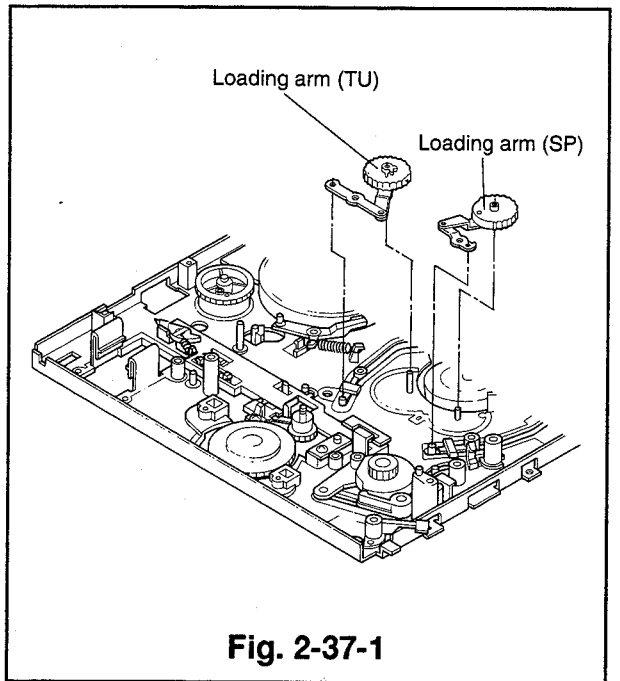
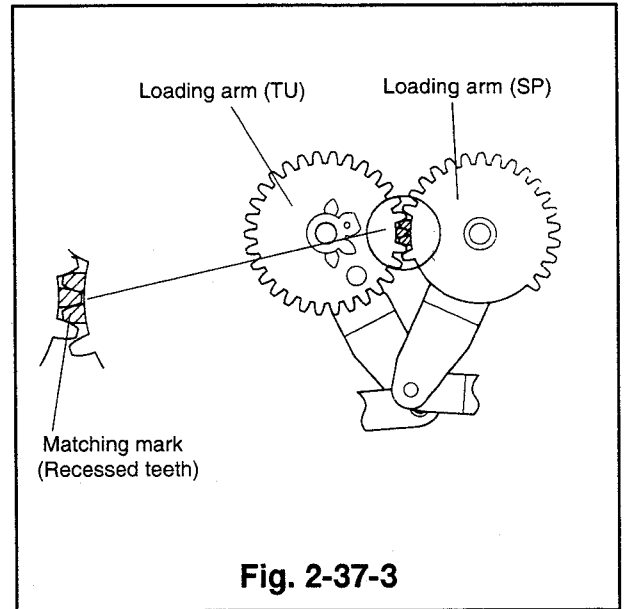

Fig. 2-37-1
Fig. 2-37-3
- ① Remove the reel belt and the belt pulley. (Refer to Para. 2-28 for the removal method.)
- ② Remove the loading motor assembly(which holds the motor holder). (Refer to Para. 2-29 for the removal method.)
- ③ Remove the main gear-J. (Refer to Para. 2-30 for the removal method.)
- ④ Remove the plate-J, the roller-B, and the cam plate-B. (Refer to Para. 2-33 for the removal method.)
- ⑤ Raise the loading arms upward, first SP and then TU, to remove them.(Refer to Fig. 2-37-1)
- ② Place the new loading arm(TU) in the position shown in Fig. 2-37-1, then place the loading arm(SP) in the position shown in Fig. 2-37-1 at the same time aligning the marks on the cogs, refer Fig. 2-37-3(shaded area).